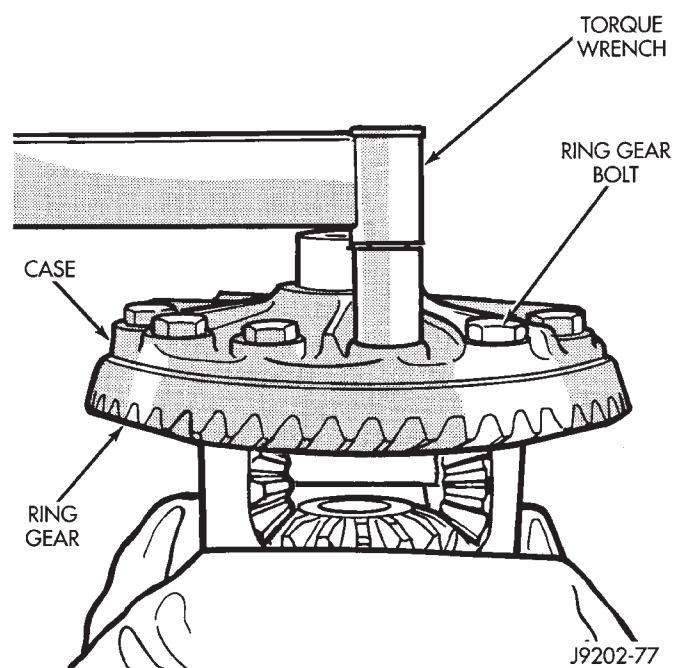

Fig. 27 Ring Gear Bolt Installation
- (1) Invert the differential case and start two ring gear bolts. This will provide case-to-ring gear bolt hole alignment.
- (2) Invert the differential case in the vise.
- (3) Install new ring gear bolts and alternately tighten to 95–122 N·m (70–90 ft. lbs.) torque (Fig. 27).
- (4) Install differential in axle housing and verify gear mesh and contact pattern.